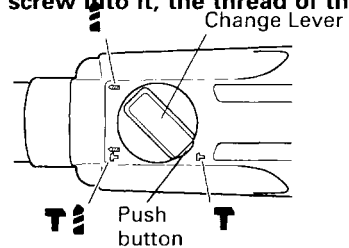

Fig. 11
This rotary hammer can be set to striking only mode by pressing the push button and turning the change lever to **T** mark. (Fig. 11)
- (3) Turn the change lever to **T** mark. (Fig. 11)